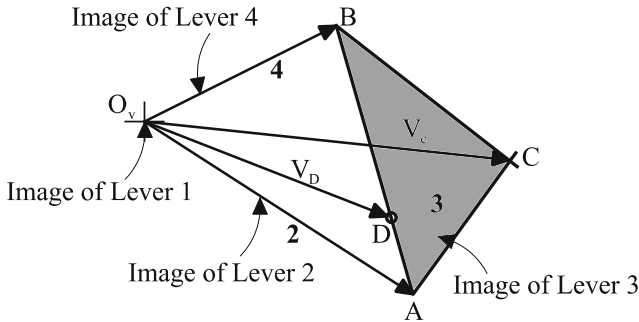

Fig. 2.13 Image of velocities
The V_{CA} and V_{CB} extensions are known according to the shape of the mechanism and are perpendicular to the sides CA and CB , respectively. Equation (II) is used, and the extension of the vector V_{CA} from point A is plotted in the following figure. Then, according to Equation (III), the extension of the vector V_{CB} is plotted from point B . The intersection of the extensions V_{CA} and V_{CB} completes the polygon. The intersection of point C gives V_C . It should be noted that the sum of the vectors of polygons must be compatible with equations (II) and (III) (Fig. 2.13).